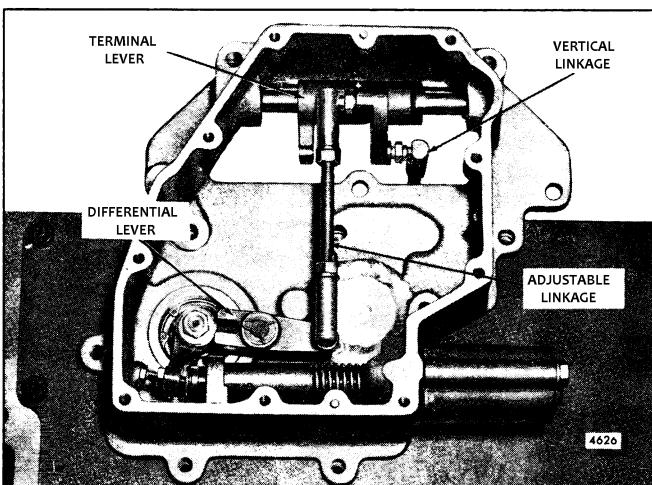

Fig. 3 - Governor Operating Linkage (Former)
4. On former governors, disconnect the vertical linkage from the terminal shaft lever (Fig. 3).